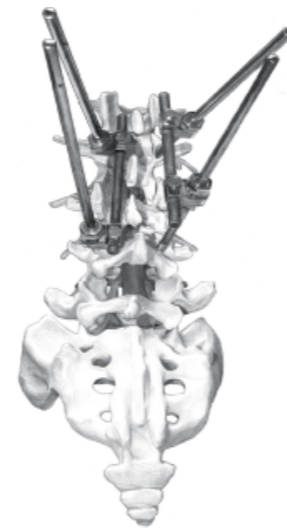

Fig.3b
- The assembled sleeve chuck and rod were inserted along the long caudal end of the SCHANZ Pedicle Screw I, noting that the direction of the rod should be close to the spinous process. (Fig.3b).